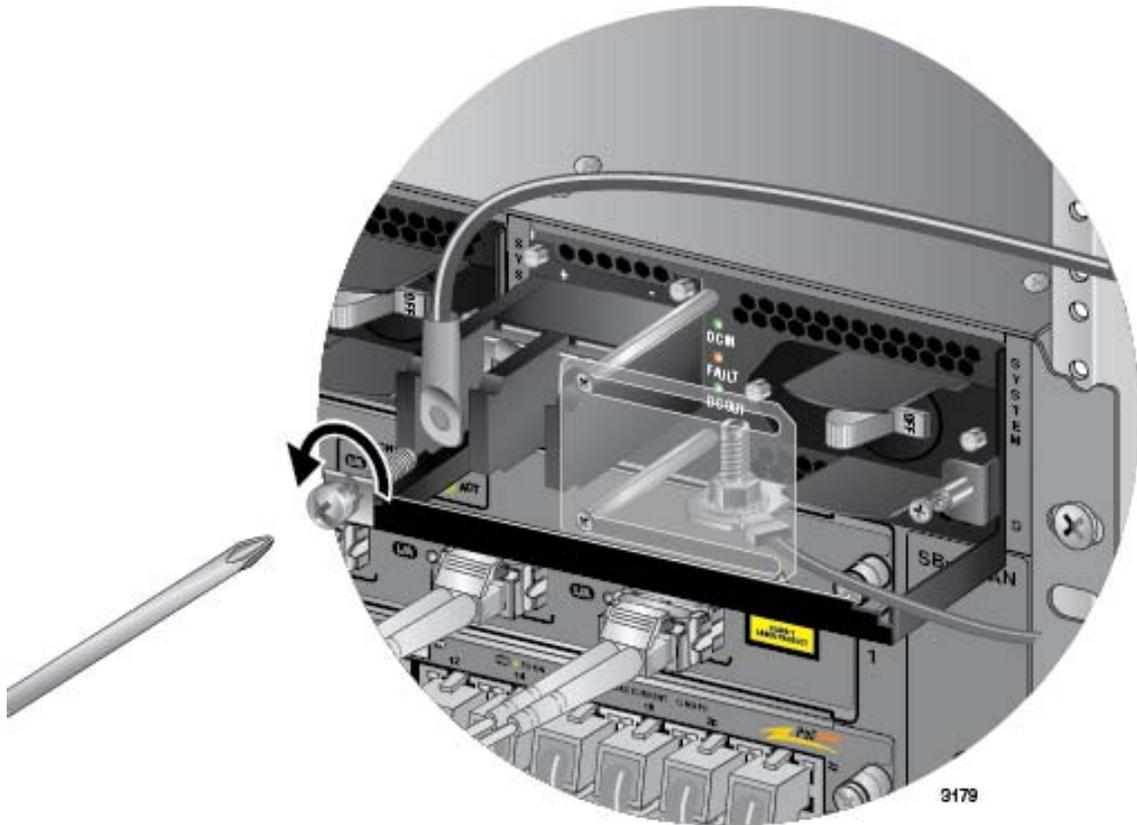

Figure 153. Removing the Positive Lead Wire
6. Use a #3 screwdriver to remove the positive (+) lead wire from the terminal block. Refer to Figure 153 on page 242.